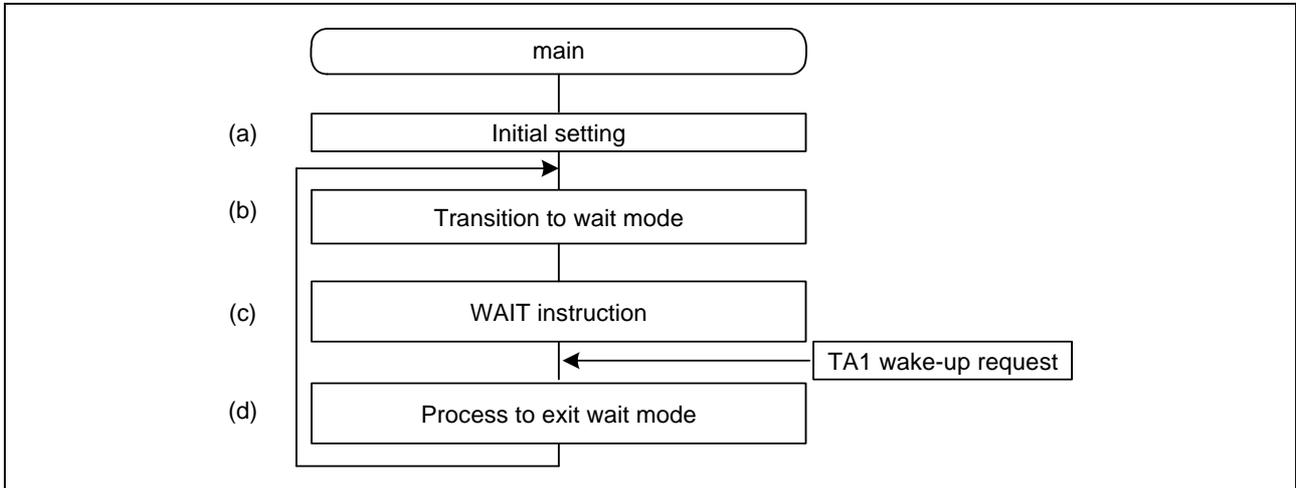
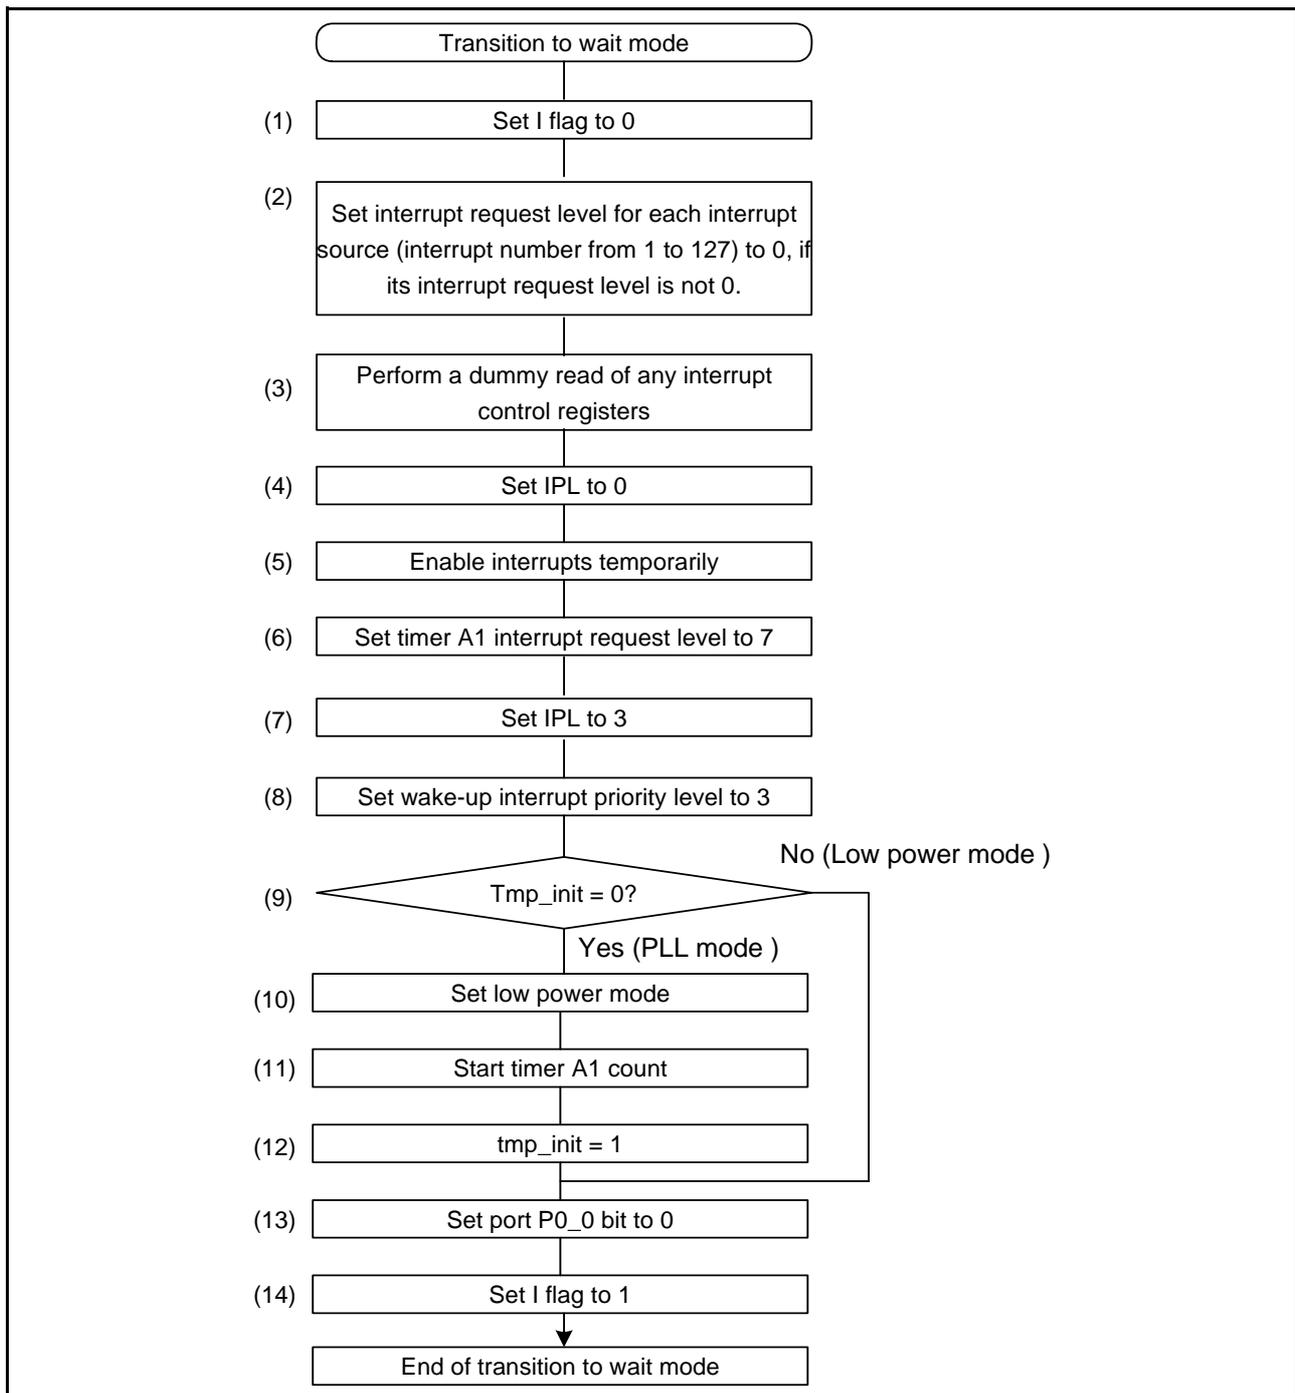
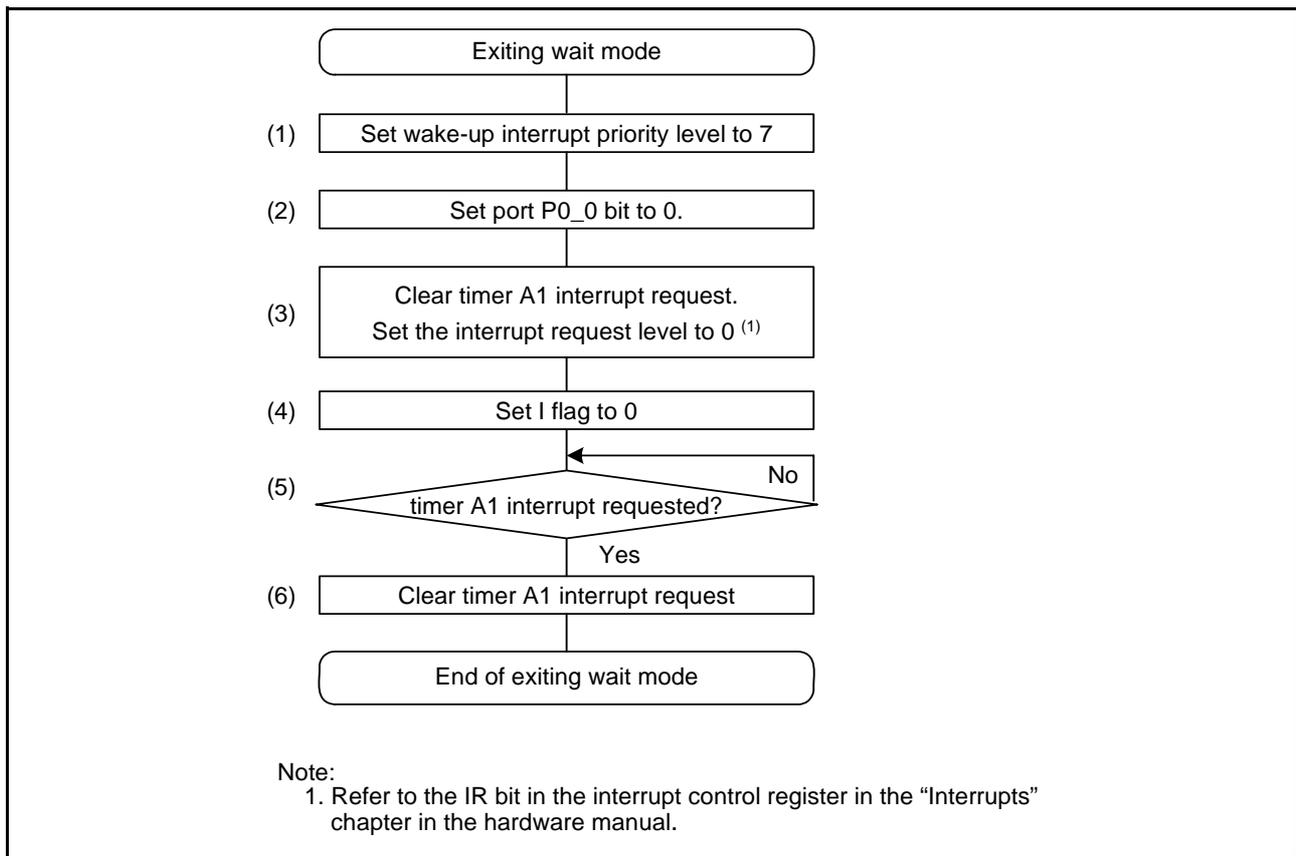

Figure 5.3 Main Function Flowchart
Figure 5.4 Wait Mode Transition Flowchart
Figure 5.5 Exit Wait Mode Flowchart
Figure 5.3 shows the Main Function Flowchart, Figure 5.4 shows the Wait Mode Transition Flowchart and Figure 5.5 shows the Exit Wait Mode Flowchart.
Items in parenthesis correspond to flow numbers in the sample program: (a) to (d) in Figure 5.3, (1) to (14) in Figure 5.4, and (1) to (6) in Figure 5.5.